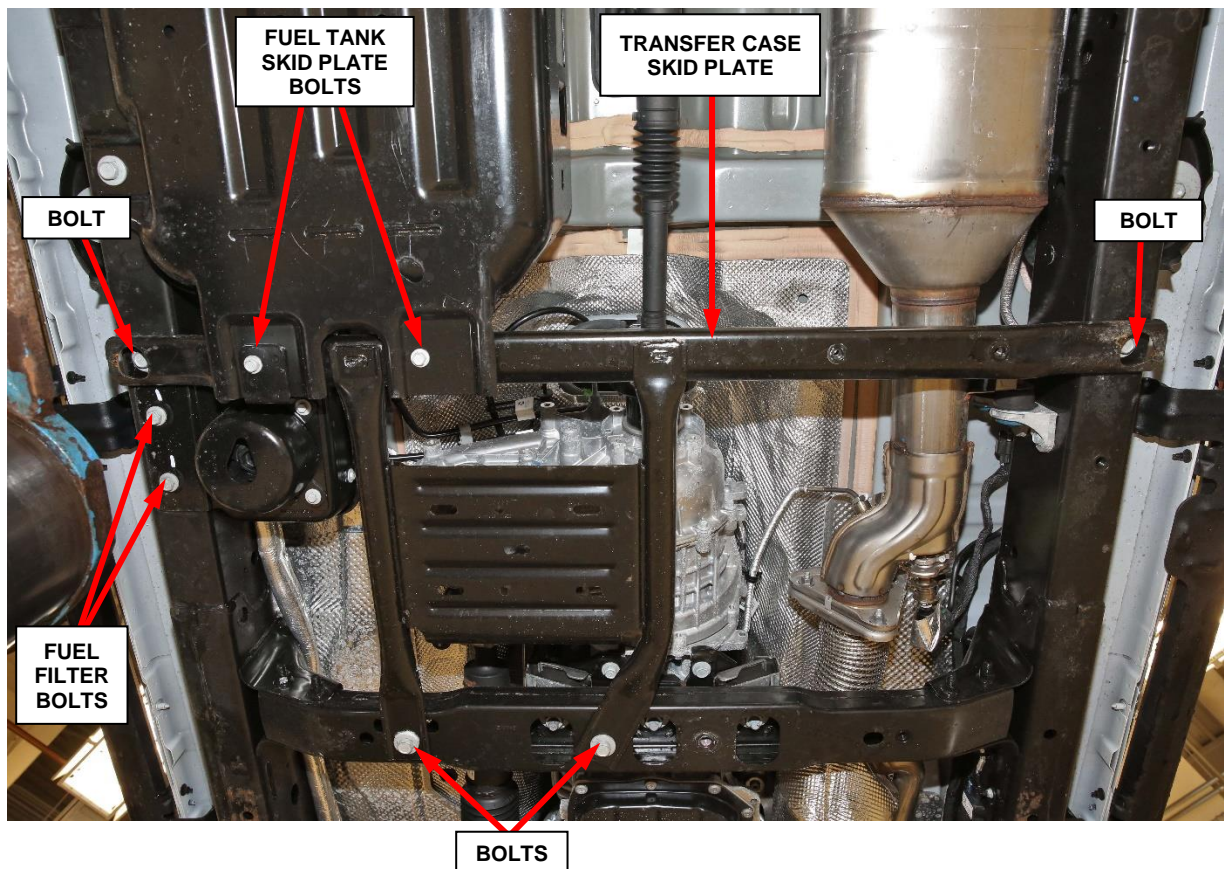

Figure 5 – Transfer Case Skid Plate
7. Remove and **SAVE** the two bolts securing fuel tank skid plate to transfer case skid plate then remove and **DISCARD** the four bolts securing the transfer case skid plate to the vehicle then remove the transfer case skid plate (Figure 5).